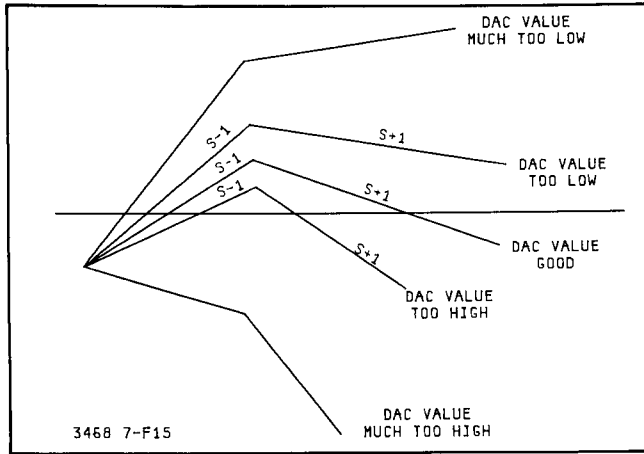

Figure 7-F-15. Determining the DAC Setting
7-F-47. The correct DAC setting is determined during the time when the S+1 and S-1 currents are applied. These currents are applied after the first set of S-1 slopes have crossed zero (see paragraph 7-F-45, step g). Since both S+1 and S-1 currents have the same amplitude, the S+1 and S-1 slopes should have the same magnitude (i.e. zero crossing should occur at a certain time). If a difference in magnitude is noted by the A/D Controller, the DAC is adjusted until the magnitude of the S+1 and S-1 slopes are the same. This is illustrated in Figure 7-F-15.
**7-F-48. Rundown Slope Generation.** The S-4 and S+4 slopes are generated the same way it is done for the runup operation (see paragraphs 7-F-38). The only difference is that they only depend on the applied S-4 and S+4 currents, not the input current. The S-0 slope is generated the same way as the S-0 slope in runup (see paragraph 7-F-39). The S-3 and S-1 currents use the same circuitry configuration as the S-4 current (see Figure 7-F-12), but use different resistor values. The resistor values are such that the S-3 current is 1/10 the
S-4 current and the S-1 current is 1/1000 the S-4 current. The S+2 and S+1 currents use the same circuitry configuration as the S+4 current (see Figure 7-F-11). In this case, resistor values chosen are such that the S+2 current is 1/100 the value of S+4 current and S+1 is 1/1000 the value of S+4.